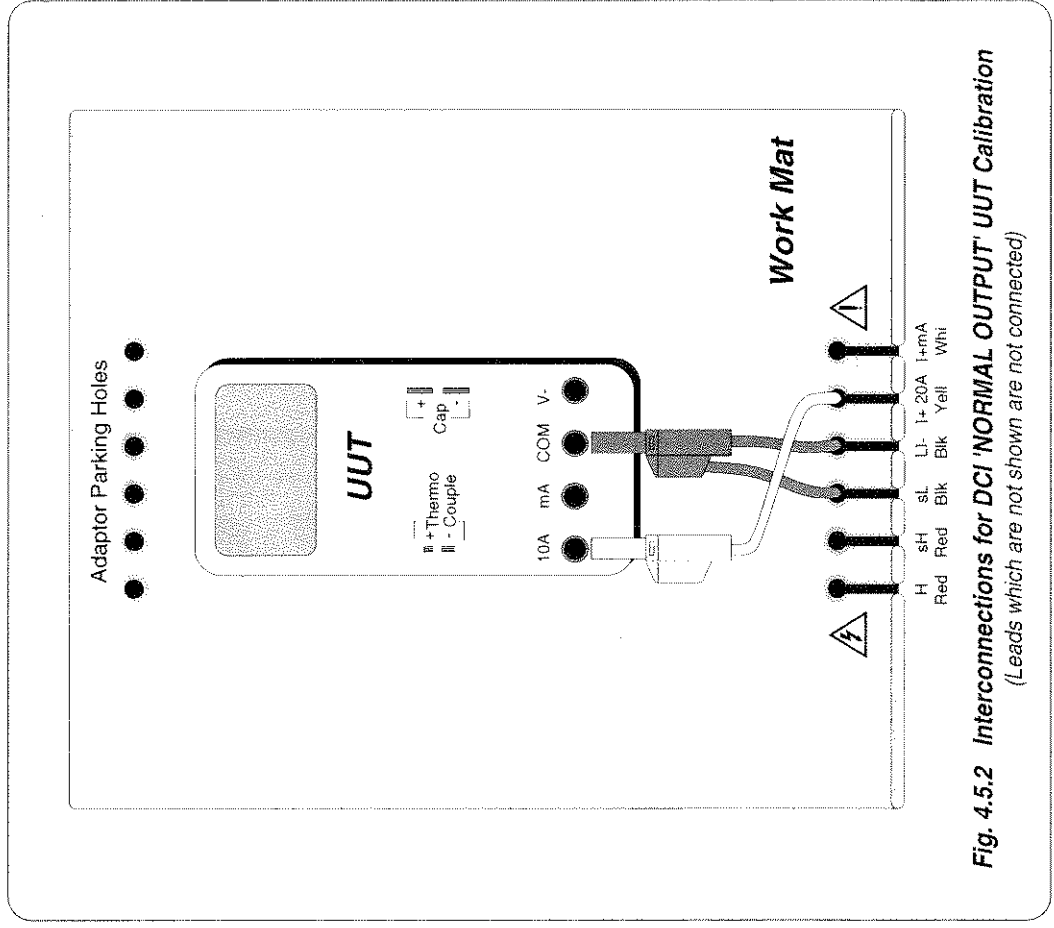
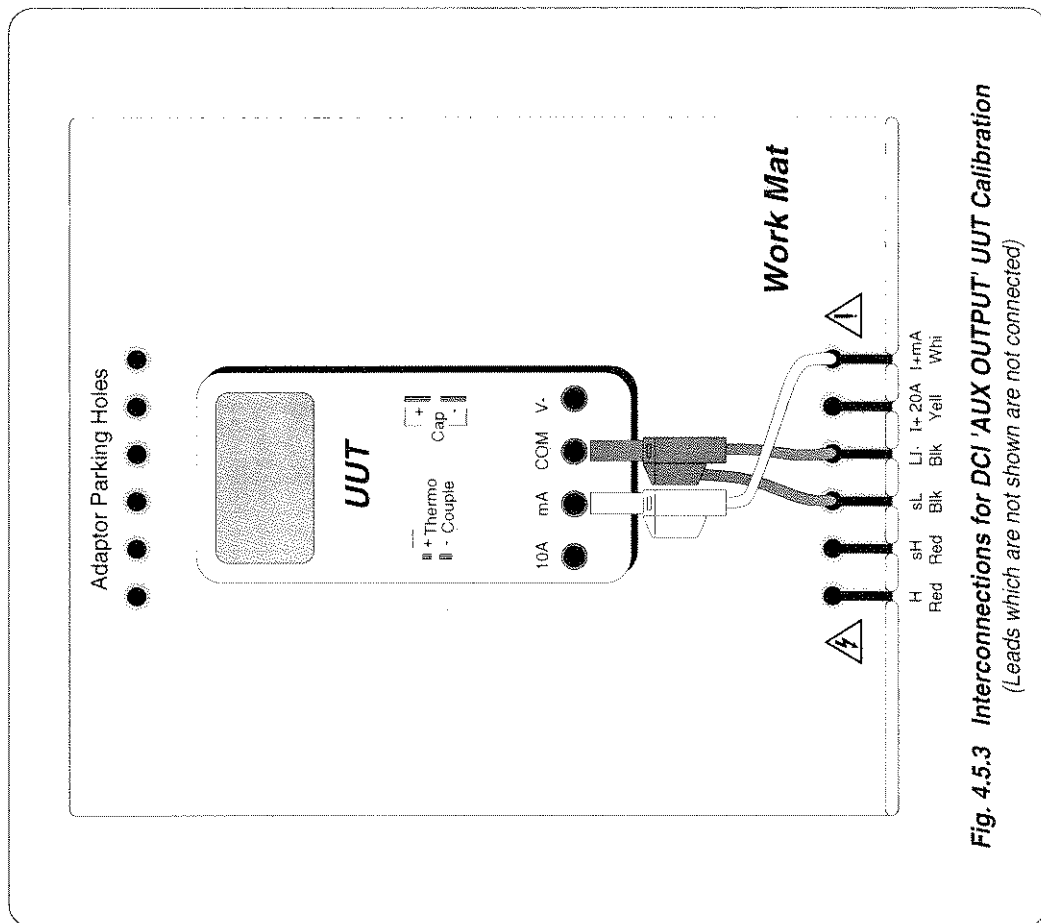
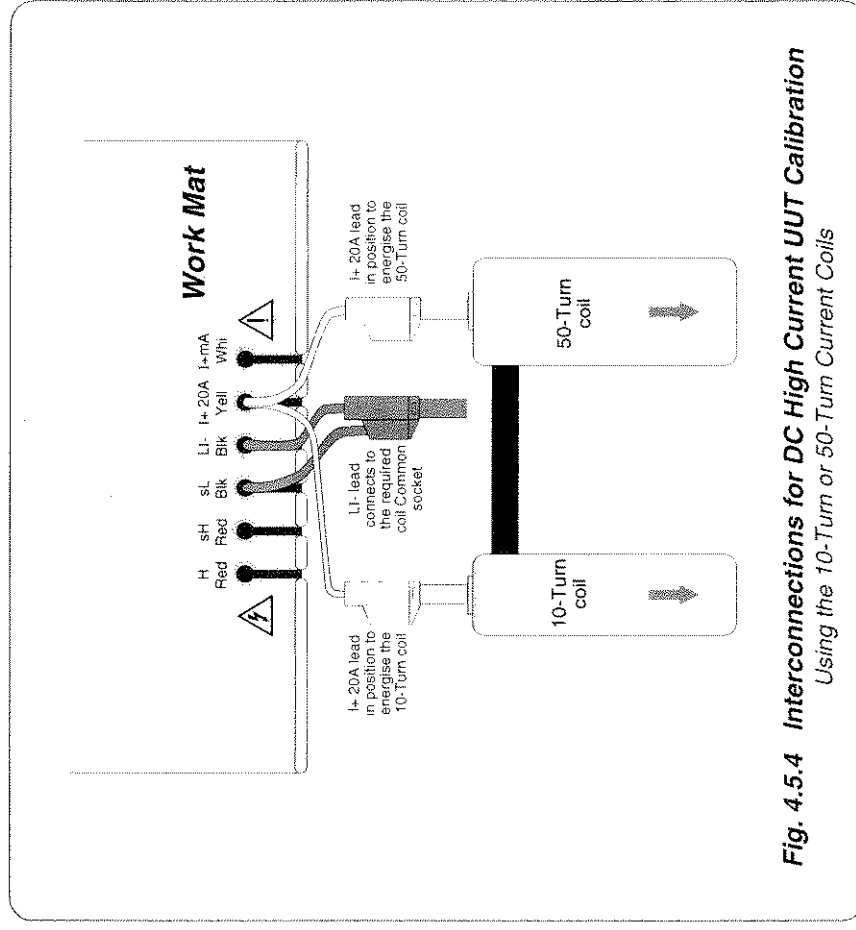

Fig. 4.5.2 Interconnections for DCI 'NORMAL OUTPUT' UUT Calibration
Fig. 4.5.3 Interconnections for DCI 'AUX OUTPUT' UUT Calibration
Fig. 4.5.4 Interconnections for DC High Current UUT Calibration
The sensor clamp passes through the center air space of the selected coil — manufacturers' precautions should be observed as to the positioning of the clamp within the coil — refer also to the notes with Fig 4.5.4/5/6 on page 4.5.14.
The general connection schemes for UUT calibration of DC Current Function are illustrated in *Figs. 4.5.2, 4.5.3 and 4.5.4.*
1. **Connections** Connect the 9100 to the UUT as shown in *Fig. 4.5.2* (Normal Output), *Fig. 4.5.3* (Aux Output) or *Fig. 4.5.4* (Current Coil Output), and ensure that both instruments are powered ON and warmed up.
1. **9100** Use the front panel controls to set the 9100 Output current to the UUT cal point value, and select the form of output (SELECT OUTPUT key). Reconnect (*Fig. 4.5.2, 4.5.3 or 4.5.4*) as required.